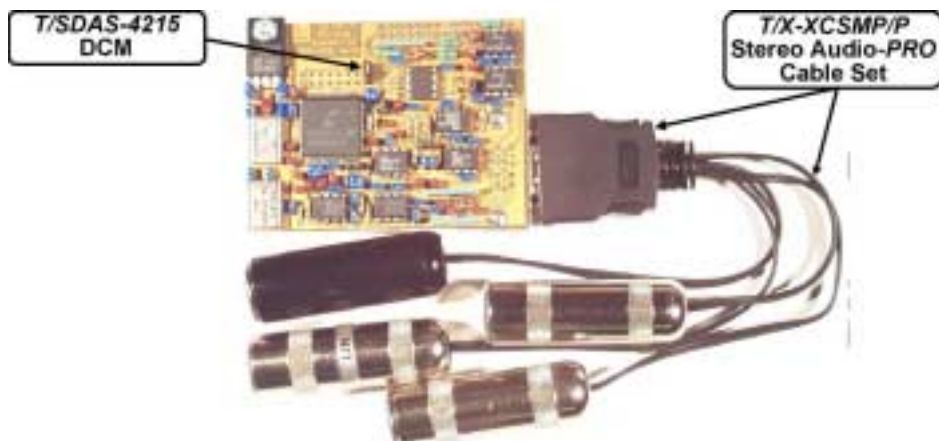
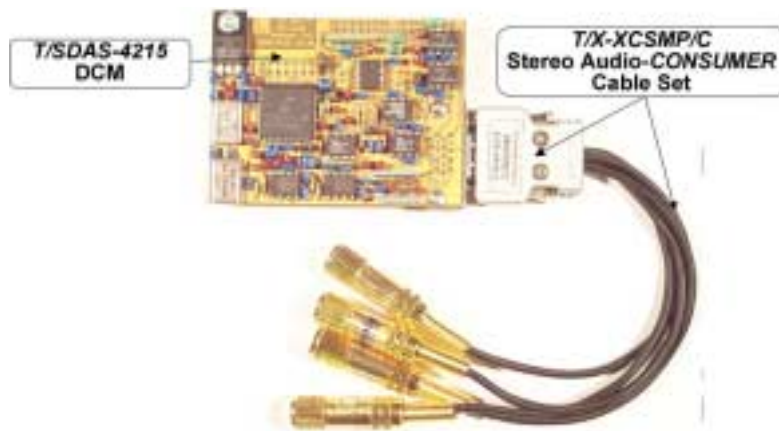

Fig. 1-3. T/SDAS-4215 DCM with T/X-XCSMP/P stereo audio-PRO cable set.
Fig. 1-4. T/SDAS-4215 DCM with T/X-XCSMP/C stereo audio-CONSUMER cable set.
*T/SDAS-4215* DCM can interface either to professional audio equipment with differential I/O and audio signal levels +22dBu via *T/X-XCSMP/P* external I/O cable set (fig.1-3), or to consumer audio equipment with single-ended analog signal level 2Vrms via *T/X-XCSMP/C* external I/O cable set (fig.1-4). Each cable set comprises of stereo line-in, microphone –in, line-out and phones-out connectors.